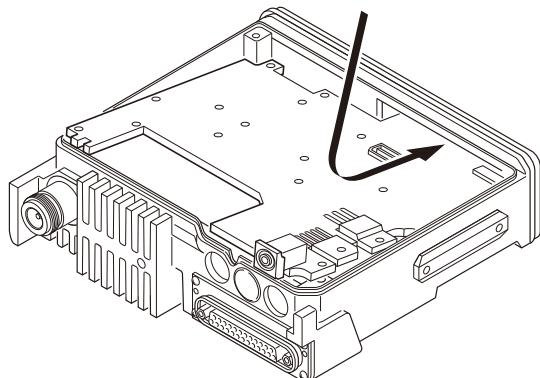

Fig. 3
- Place the TX-RX PCB at its original position, tilt the TX-RX PCB and install the chassis as shown in Figure 3.